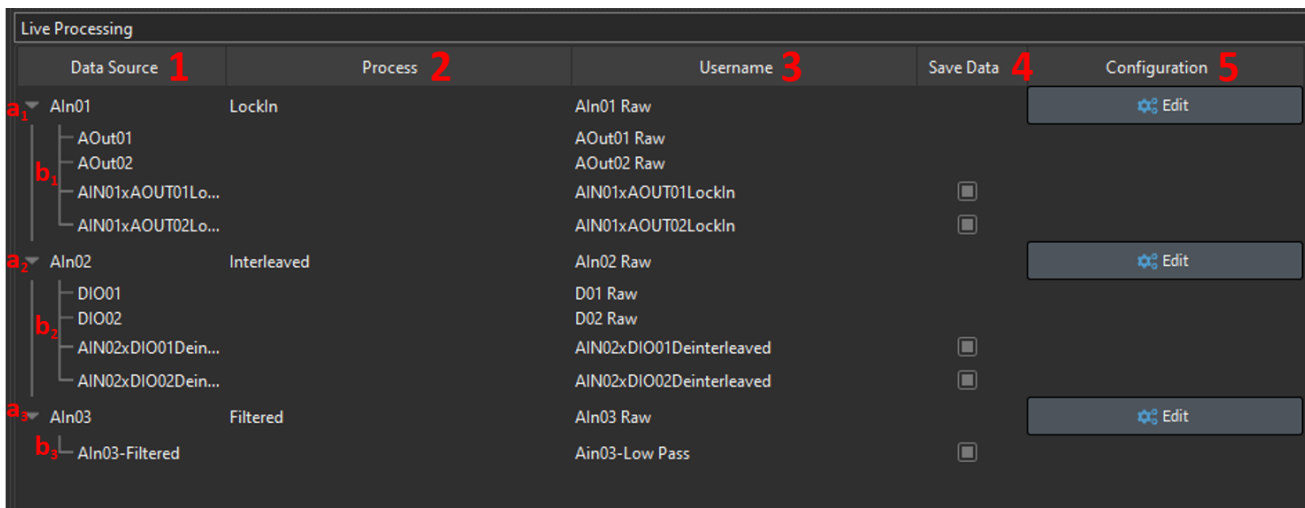

Figure 11.89: Live Processing, List
The **Live Processing** view contains a list of the added processes and all of their dependencies (Fig. 11.89). Users can delete, rename, change saving options within this list, or view/edit the configuration settings.
1. The **Data Source** column (Fig. 11.89, 1)
- a) The **Analog In** channels (Fig. 11.89, a) receives and saves the raw data from the sensor(s) without any live processing applied to the data.
- b) The **Dependencies** (Fig. 11.89, b) includes either DIO, AOUT and/or processed AIN channels required for the **Live Processing**.
2. The **Process** column (Fig. 11.89, 2) displays the type of *Live Process* calculation done of the raw data from **Analog In** channel (Fig. 11.89, a).
3. The **User Name** column (Fig. 11.89, 3), when double-clicked, specifies a new label for the channel. This label is the name that will be used to represent that channel in the **Graph List** in the **Acquisition View** (Section 11.4.2). Renaming a dependency also changes the **User Name** in the **Configuration** section.
4. The **Save Data** column (Fig. 11.89, 4) contains check-boxes which, if enabled, saves the channel data during the recording in the *.doric* data file. If disabled, all acquired data from that channel, even if viewed, will be lost.
5. The **Configuration** column (Fig. 11.89, 5) opens a **Channel(s) Editing** pop-up window where users can quickly check the settings used in the process configuration. In this window, users can even modify select parameters after creating the channel.